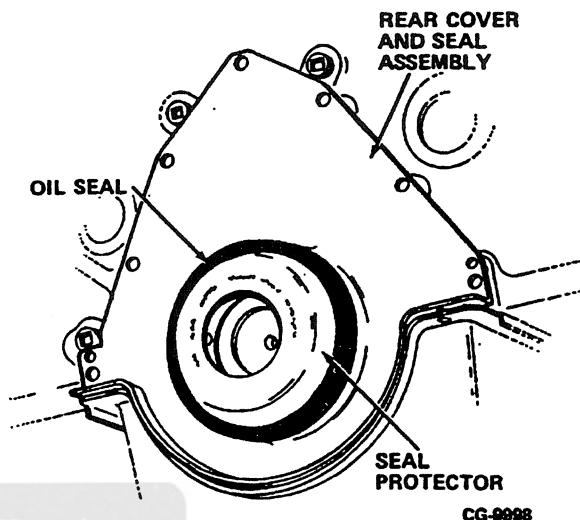

**Figure 6.49.** Location of Aviation Permatex™ #3 for Rear Cover Gasket; and Seal Protector Installed Over Crankshaft Flange
SEAL PROTECTOR SHOWN IN FIGURE 6.49 IS FOR STANDARD SIZE REAR OIL SEAL INSTALLATION. WHEN INSTALLING OPTIONAL OVERSIZED REAR OIL SEAL, USE PROTECTOR INCLUDED IN WEAR SLEEVE PACKAGE (P/N 1 807 788 C92). REFER TO INSTRUCTIONS INCLUDED WITH WEAR SLEEVE PACKAGE.
- Apply a thin coat of Aviation Permatex™ #3 to crankcase cover gasket surface as shown in Figure 6.49. Install rear cover gasket. Repeat above application of sealant on gasket. **DO NOT ALLOW PERMATEX TO GET ON CRANKSHAFT OIL SEAL FLANGE.**
**NOTE:** Apply an additional 1/4 in. bead of R.T.V. sealant in 2 places as shown in **Figure 6.49**, prior to rear cover and seal installation.
- 1/4 in. dia. bead for front corners as shown in **Figure 6.49**.